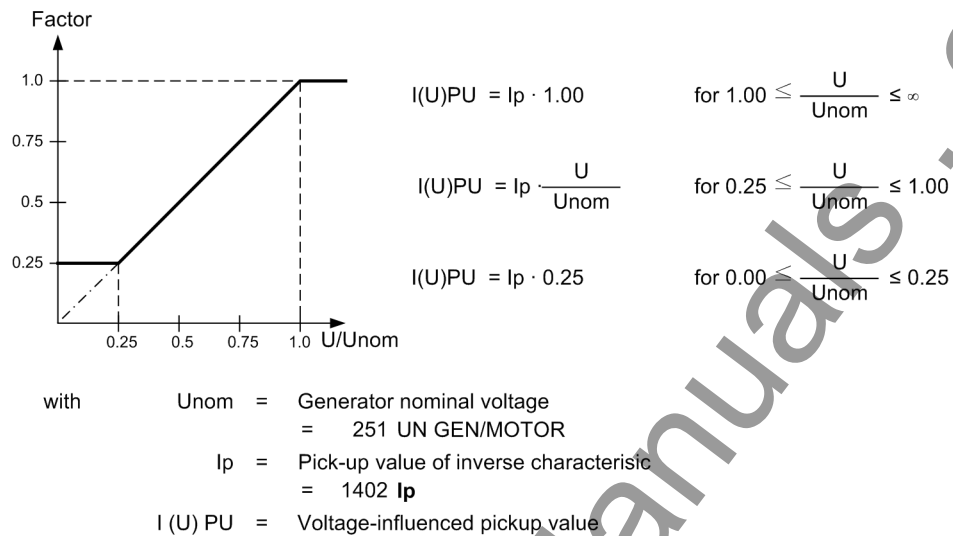

Figure 2-16 Pick-up Value Voltage Dependency
- **Voltage restraint:** The pickup threshold of the overcurrent stage depends on the voltage level. A lower voltage reduces the current pick-up value (see Figure 2-16). A linear, directly proportional dependency is realized in the zone between $U/U_{Nom} = 1.00$ and 0.25 .